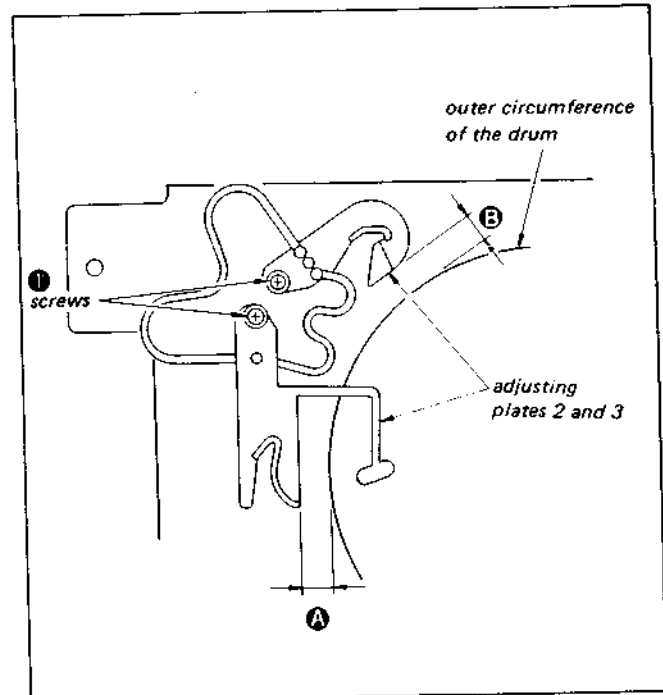

Fig. 3-5. Measurement of the position of adjusting plates 2 and 3
- 3) Remove the screws shown in Fig. 3-5, then remove the tape guide ground plate and adjusting plates 2 and 3 **2**.